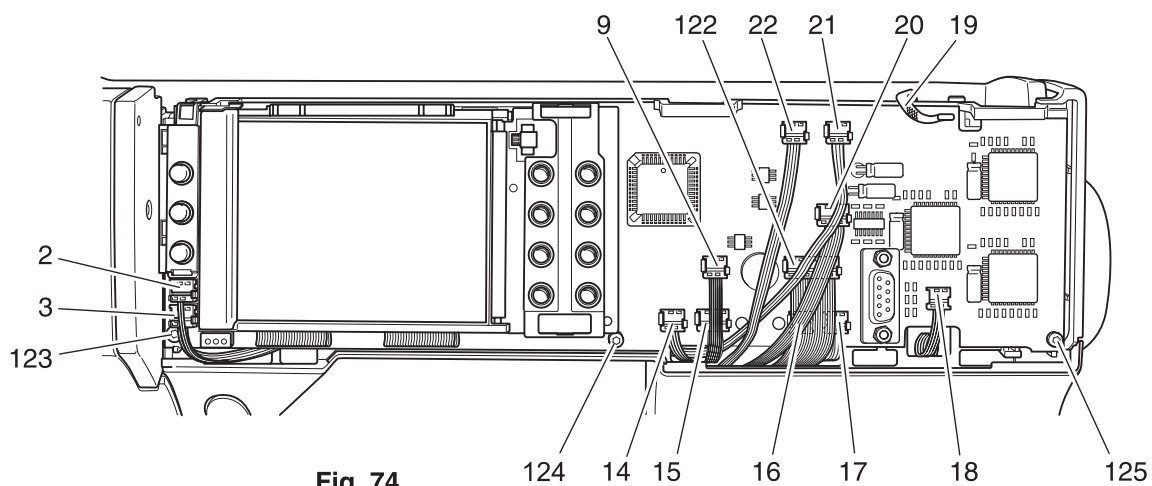

Fig. 74
- Remove the connecting plug 15 from button hole sensor (fig. 74).
- Mount connection plug 15 onto the circuit board (fig. 74).